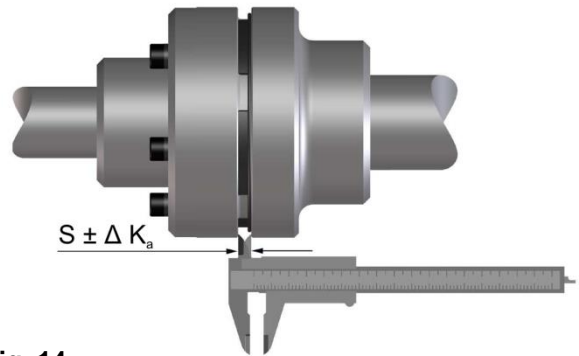

Fig. 14
- Measure the axial installation backlash S (Fig. 14).